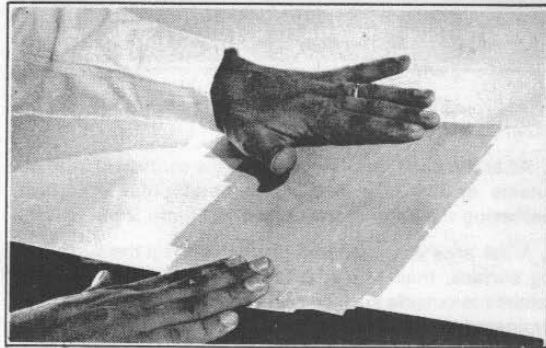

Figure 2-82. Taping on Backing
4. Cover a piece of cardboard or aluminum with cellophane and tape it to the outside surface with the cellophane facing toward the hole. Aluminum is used as backing where contour is present. The aluminum should be shaped the same as the contour. See Figure 2-82.